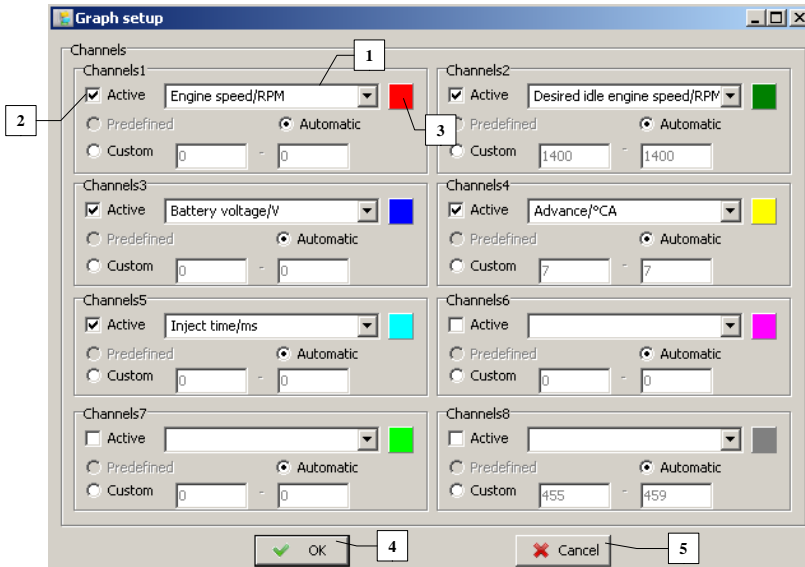
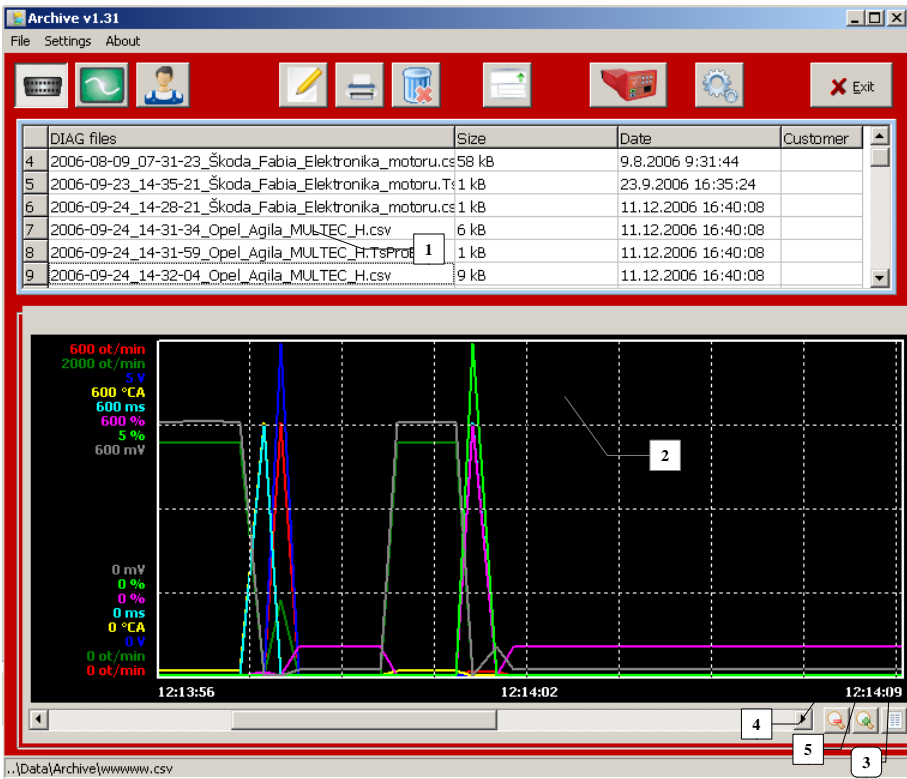

Figure 6.4
Figure 6.5
After you click it a window Graph setup will appear (Figure 6.4). Here you can modify individual displayed channels. We can choose what parameter will each channel represent using dropdown lists (1). Using checkboxes (2) next to each channel we select which ones will be shown. The color of each graph can be also chosen (3). To exit the menu, press Cancel button (5). To apply your changes, click the OK button (4). Finally, the graphs of measured waveforms are displayed (Figure 6.5 - 2).
If you want to make the waveforms smaller click the button (4), to enlarge them press (5). If you want to modify the settings again, click the (3) button (Figure 6.5).